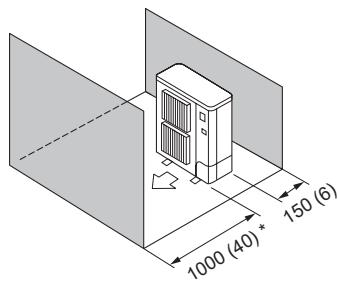

Fig. 2-10
(5) Obstacles at front and rear only (Fig. 2-10)